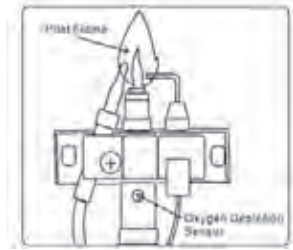

Figure 6
- Visually inspect the pilot flame and burner periodically during use. The pilot flame should be blue in color (not yellow) and will extend to the thermocouple. The flame will surround the thermocouple just below the tip. See Figure 6.
5. Inspect and clean pilot (mounted to bracket) by using a vacuum or apply air pressure through the holes in the pilot indicated by the arrows in Figure 6.